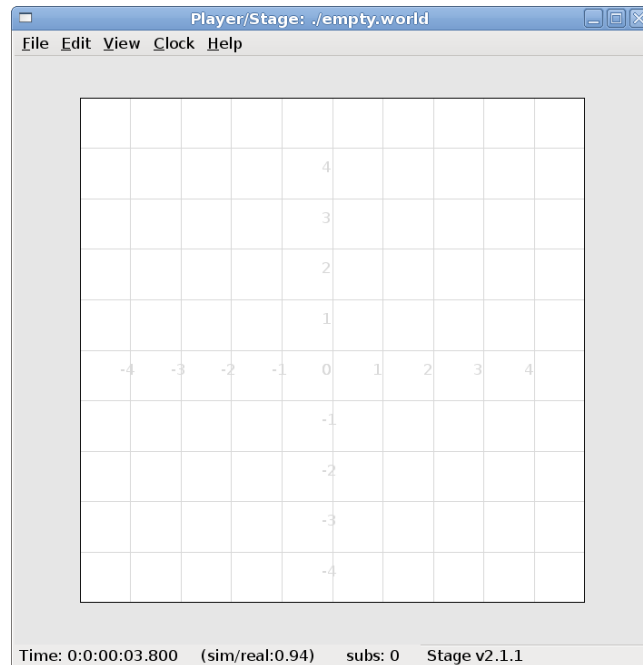

Figure 3.3: An empty map with `gui_grid` enabled. With `gui_grid` disabled this would just be an empty white square.
- **gui_grid**: this will superimpose a grid over the model. Figure 3.3 shows a map with a grid.